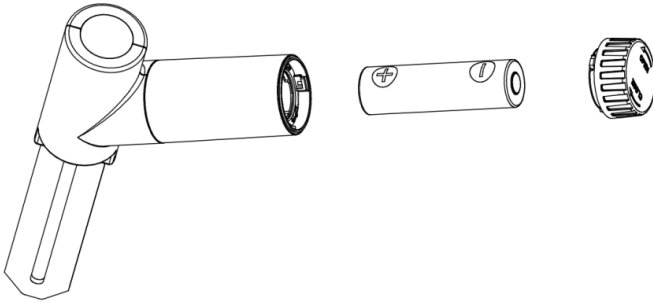

Figure 1
1. Open the battery cap of the soil moisture sensor as shown in Figure 1